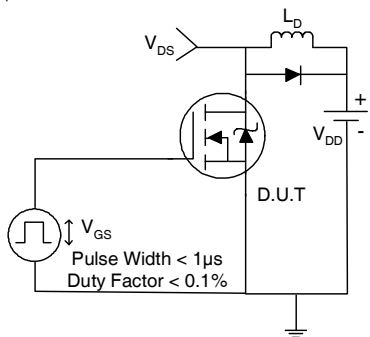

Fig 22a. Switching Time Test Circuit
3. Equation below based on circuit and waveforms shown in Figures 22a, 22b.